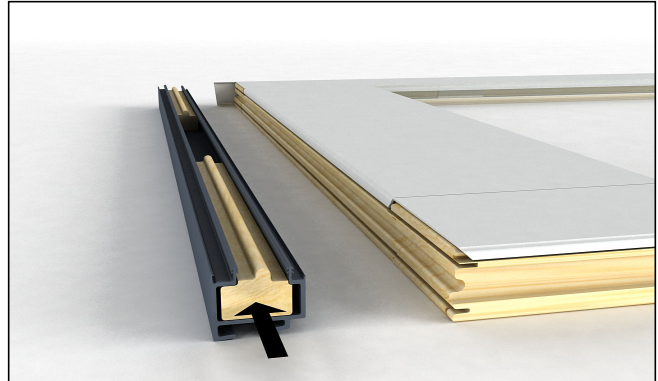

Figure 3
4. Insert the leveling block fillers (W8270) into leveling block as shown in figure 3.